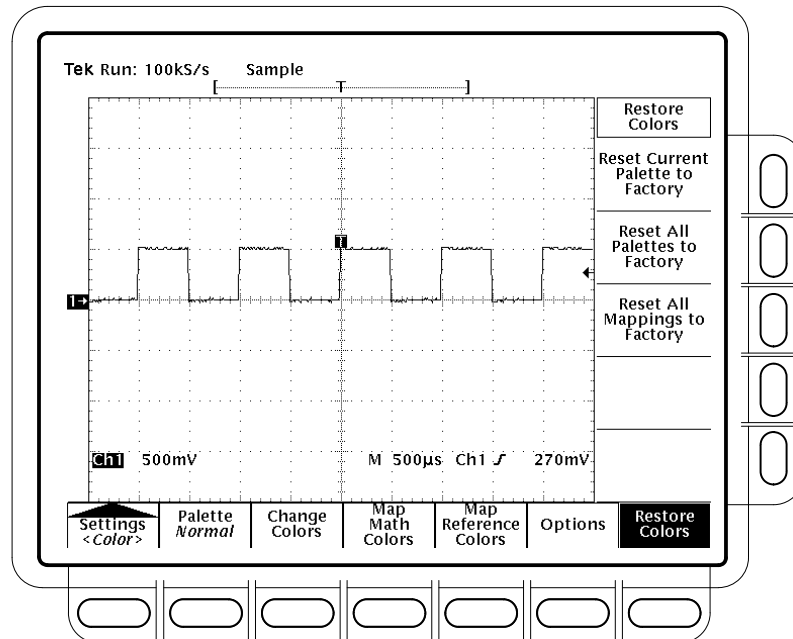

Figure 3-22: Display Menu — Restore Colors
1. Press the main menu **Restore Colors** item. (See Figure 3-22.)